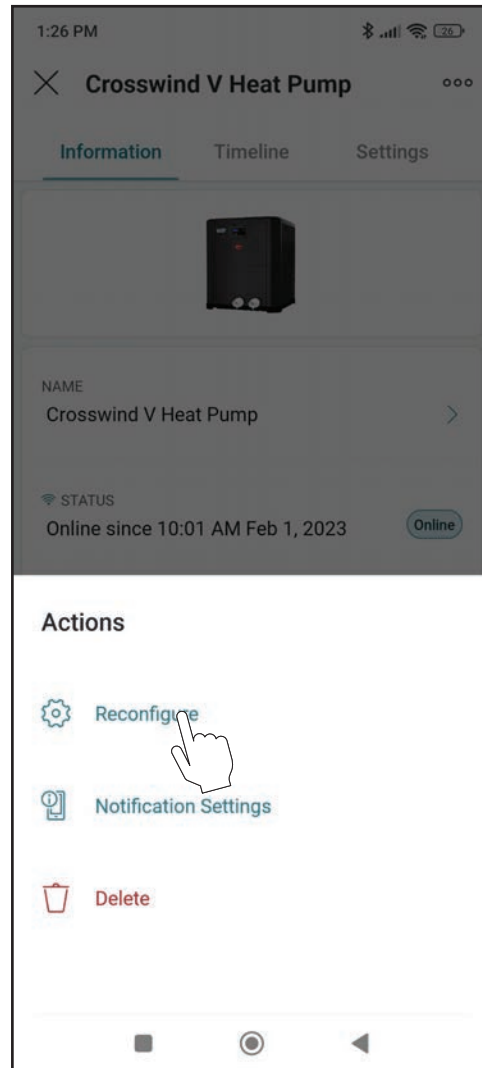

Figure 97. Select Reconfigure
3. Click in the 3-dots icon again. The action menu is displayed. In "Actions" menu, select the option "Reconfigure" as shown in Figure 97.